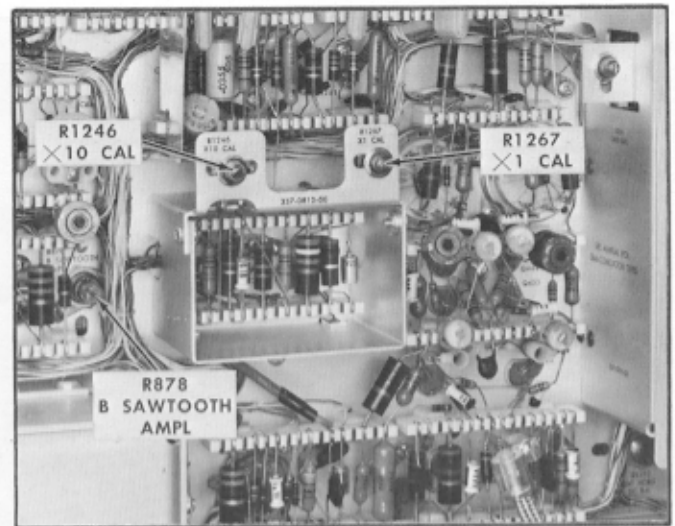

Fig. 6-36. Adjustment location for basic timing and B sweep amplitude.
40. Adjust B Sweep Sawtooth Amplitude ①
- Adjust B Sawtooth Amplitude control R878 (see Fig. 6-36) so the trace ends as the 22nd marker becomes visible (sweep length is 10.5 cm).
41. Adjust Basic Timing—B Sweep ①
- Adjust R1246 (see Fig. 6-36) to obtain one 100-microsecond marker/cm.
- Adjust R1267 to obtain one 1-millisecond marker/cm. R1267 is located on the same bracket adjacent to the $\times 10$ adjustment (see Fig. 6-36).
42. Adjust Lower Beam Sweep Magnifier Registration ①